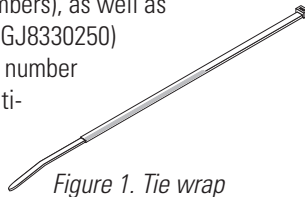

Figure 1. Tie wrap
- Tie wrap (Figure 1), 6" (150 mm) or longer